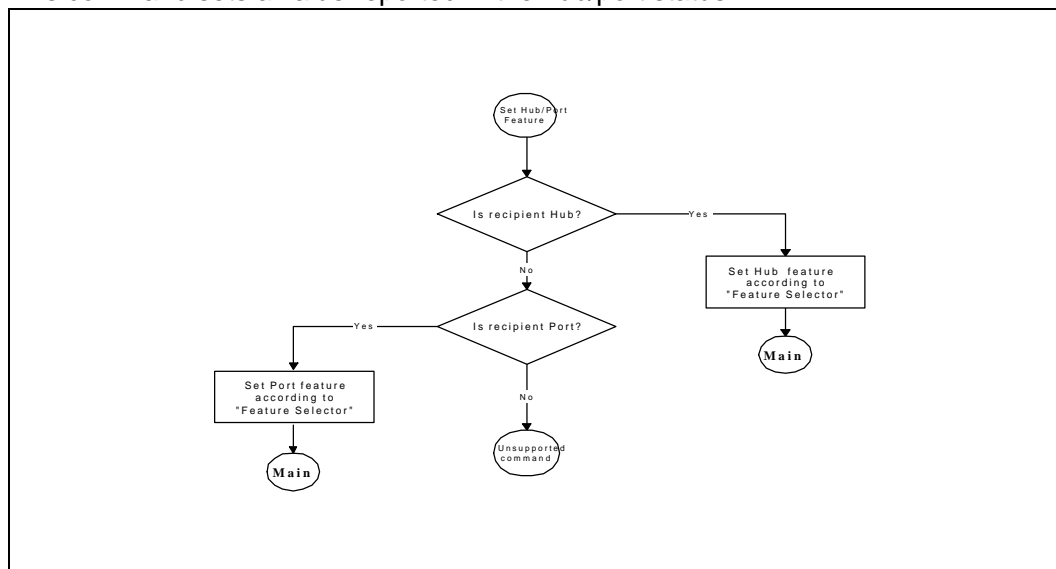

Figure 18: Set Hub/Port Feature Command
- Set Hub/Port Feature (Figure 18)